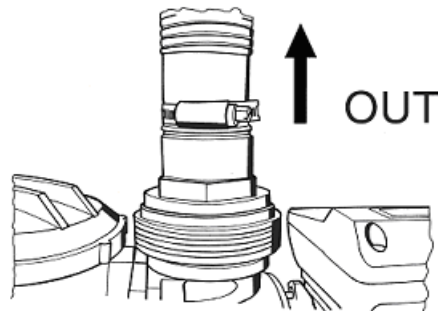
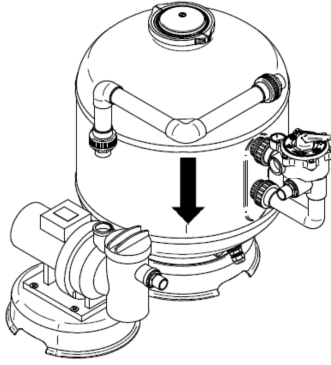
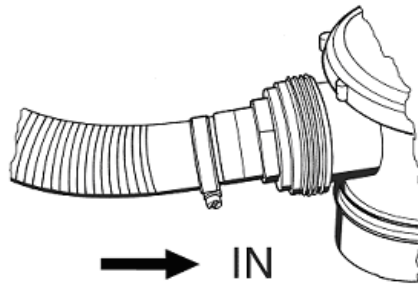
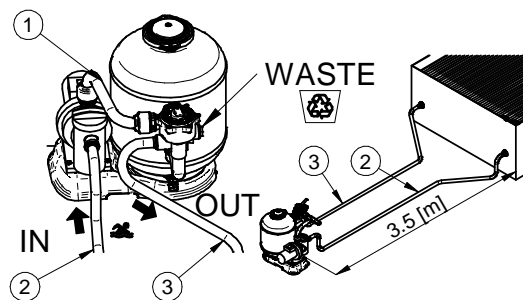

Fig. 27
Fig. 28
Fig. 29
Fig. 30
1. **Pressure connection** (Fig. 30, # 1): join the *filter pump* (*outlet* Fig. 27, OUT) to the *multifunction valve* (**PUMP**), using the corrugated pipes or the rigid connection (Fig. 28).
2. **Skimmer tube** (Fig. 30, # 2): join the *skimmer* connection to the frontal connection of the *filter pump* (inlet Fig. 29, IN).
3. **Return-tube** (Fig. 30, # 3): join the connection on the *multifunctional valve* marked with **RETURN/POOL** to the entrance mouth connection of the swimming pool. Tight with special hose clamps the tubes on the connections (*hydraulic parts*).
4. **Backwash-tube** (Fig. 30, # 4): to be used when we apply the **BACKWASH** function to drain the dirty water in a discharge area. For the connection use proper rubber tubes and proper hose clamps (*hydraulic parts*).